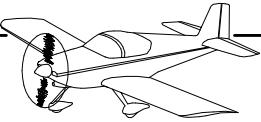

**FIGURE 2: RIVETING THE LEFT
Step 5: Rivet the nutplates called-out in Figure 2 to the F-1034C-L Fuselage Bulkhead and the F-1081 Left Baggage Cover.